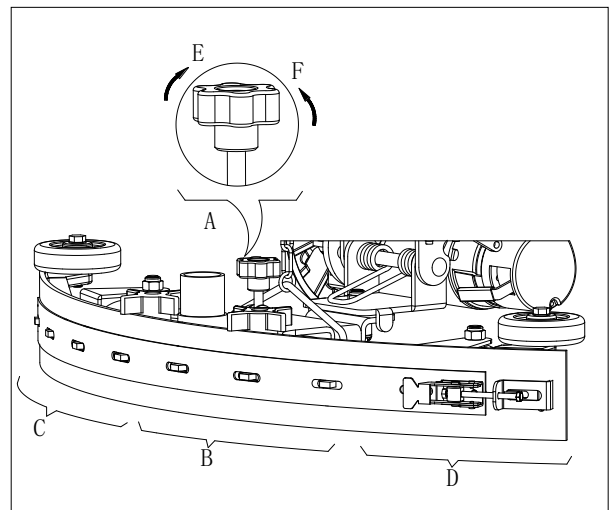

Figure 7
1. Install the squeegee (13) and fasten the squeegee knob (20), then connect the vacuum hose (19) to the squeegee.
2. Adjust the squeegee by squeegee adjusting handle (A, Figure 7).
- a) If there is gap between the ground and middle section of rear squeegee blade (B), adjust the knob (A) in counterclockwise direction (F) until all section of rear squeegee blade make good contact with ground, the front blade touch the ground slightly.
- b) If there is gap between the ground and both end section of rear blade (C and D), adjust the knob (A) in clockwise direction (E) until all section of rear blade make good contact with the ground, the front blade touch the ground slightly.